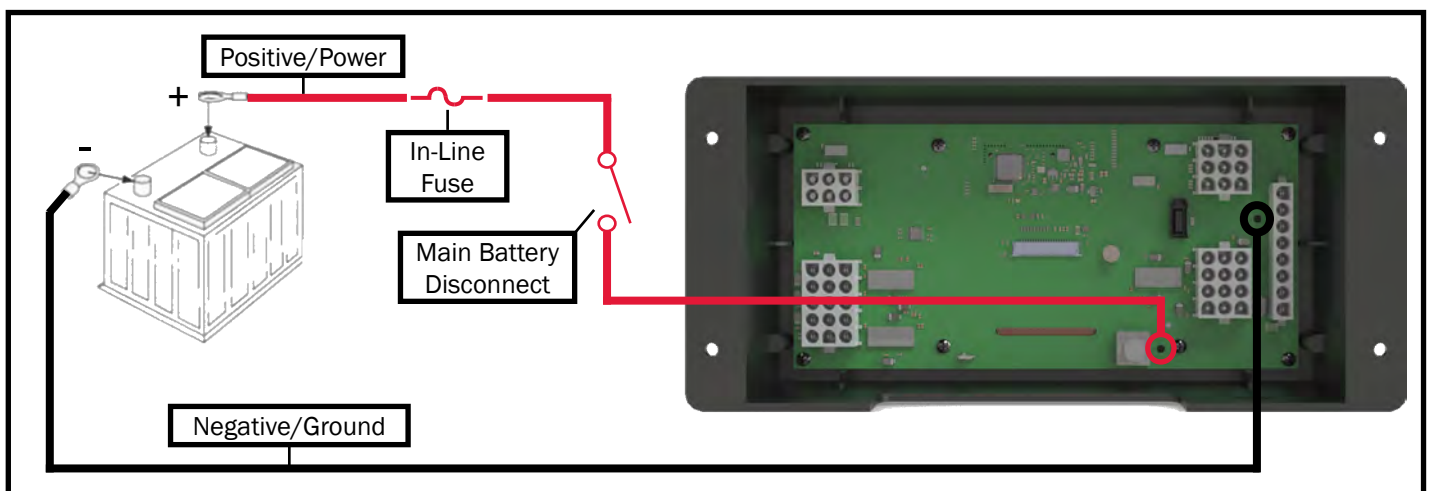

Figure 76
- Reference the schematics starting on Page 46 and Figure 76.